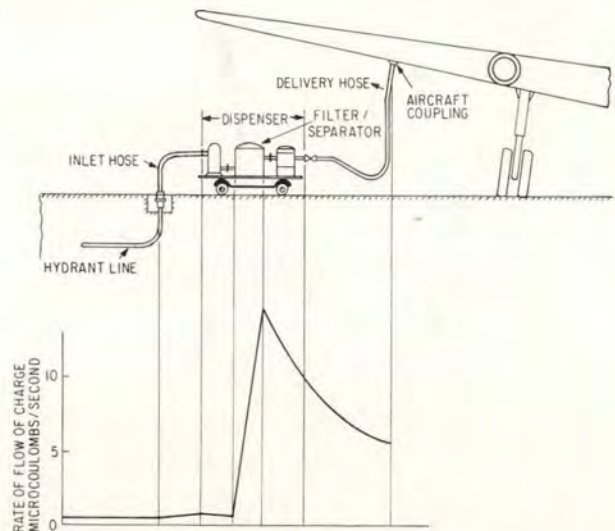

Figure 1. Effect of Filtration on Fuel Charging in an Aircraft Refueling System. Reproduced from Winter, E.F., Roy.Aero.Soc.66 429(1962)
Flashing strobe beacon carried by aircrews for use in facilitating rescue or alerting forces to position on ground. Includes a blue flash guard to prevent mistaking flash for ground fire and an infra-red (IR) hood for use with selected recovery systems (see Fig. 1).
The generation of charge on fuels flowing through pipes sharply increases with the introduction of a filter system into the line, as shown in Figure 1. A typical aircraft refueling operation is depicted at the top of the figure. Fuel from a hydrant line passes through a dispenser cart containing a filter/separator unit and then on to the aircraft wing tank. The graph at the bottom of the figure plots the level of charge on the fuel as it